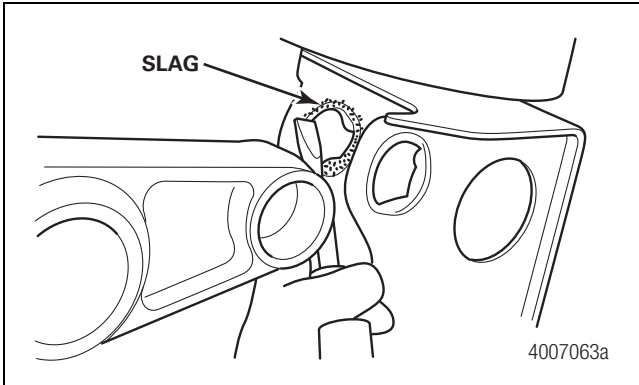

Figure 10
- Use an air chisel to remove all of the slag from inside the axle seat where the bushing would be located. Figure 10.